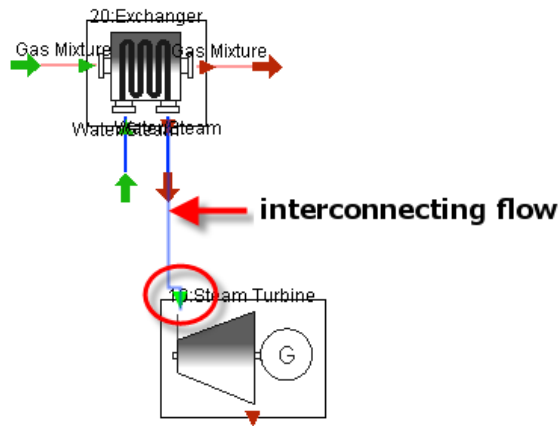

FIG. 12: Connection of a compatible flow
- If the connection is possible (type of the connected flow is similar to the required type of flow), the final connector highlights with green colour (Fig. 12). This means